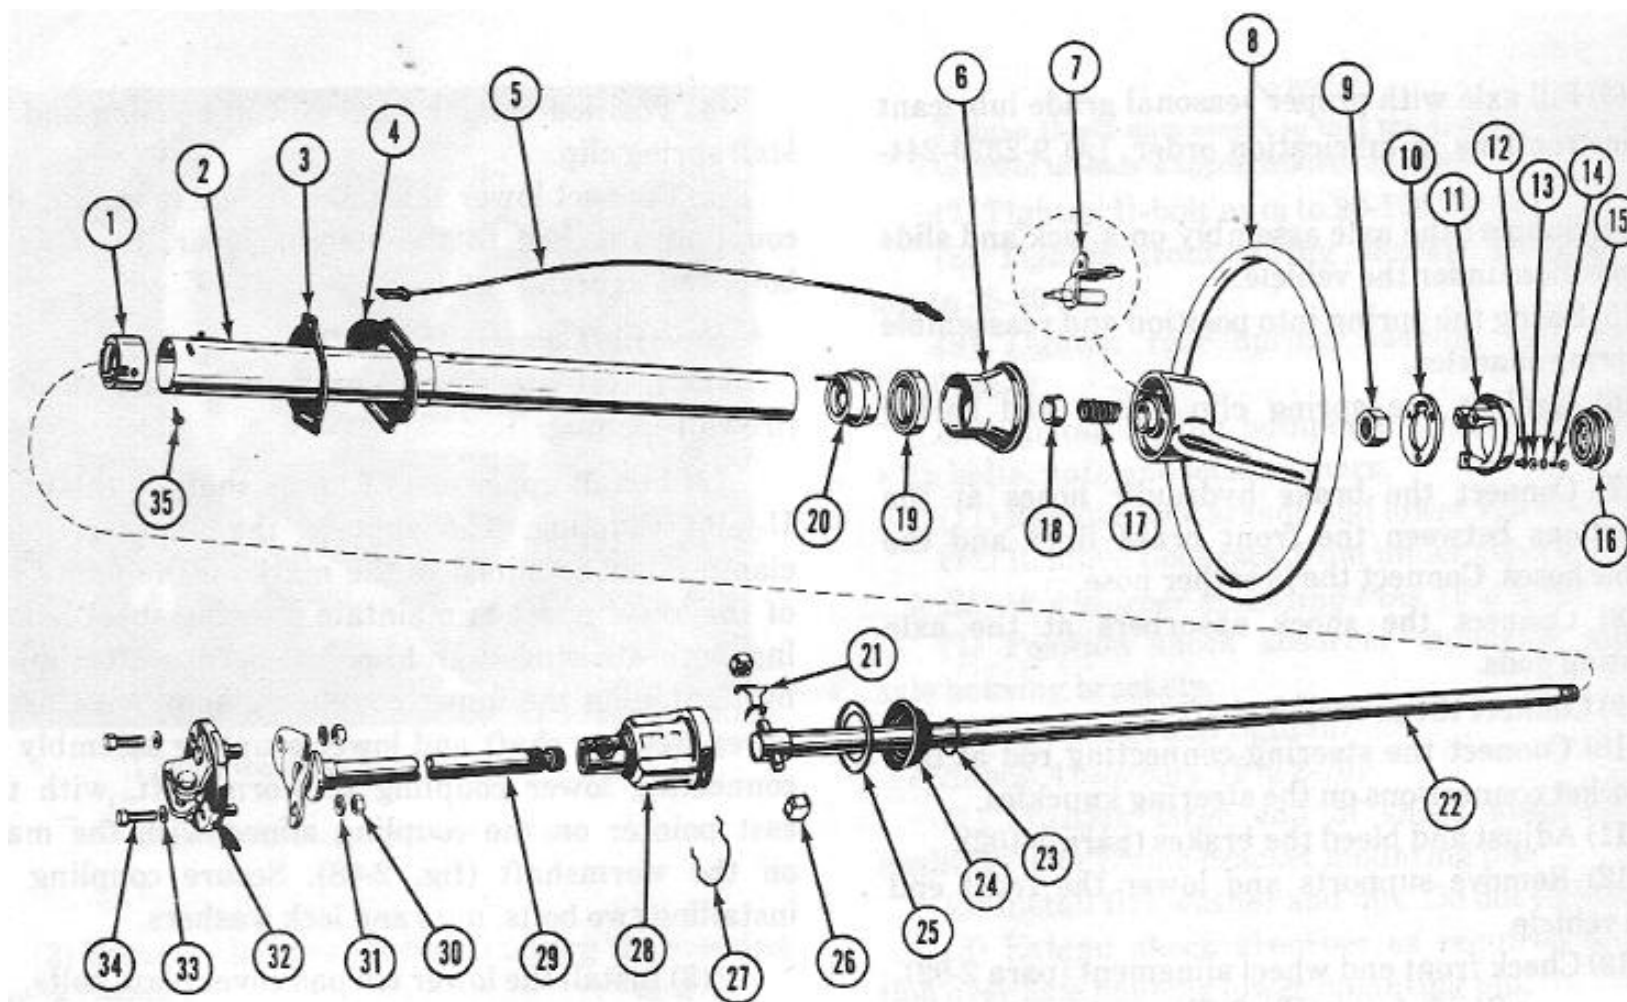

Figure 2-73. Steering column.
(1) Install coupling over on lower shaft, alining slot in clamp with mark on shaft. Install clamp bolt and tighten,
(2) With steering shaft installed, place bearing blocks with wave washers in place over each end of pivot pin after first lubricating pin with chassis grease. Place retainer over end of shaft.
(3) Lubricate inside of housing with chassis grease and carefully position over pivot pin.
(4) Position retainer and bolt in housing and install spring clip.
(5) Connect lower shaft and flange to the flexible coupling attached to the steering gear. Install two bolts and tighten.
h. Steering Column. (Fig 2-73)
(1) Insert steering column and shaft through firewall opening.